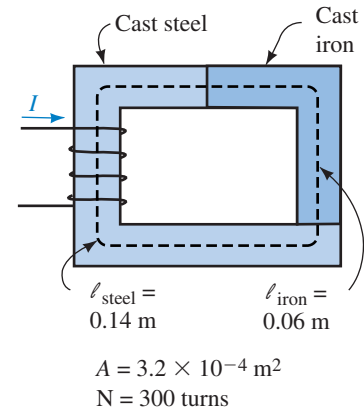

FIGURE 12-48
15. Find the current I in Figure 12-48 if $\Phi = 0.16$ mWb.
17. A gap of 0.5 mm is cut in the cast steel portion of the core in Figure 12-48. Find the current for $\Phi = 0.128$ mWb. Neglect fringing.
18. Two gaps, each 1 mm, are cut in the circuit of Figure 12-48, one in the cast steel portion and the other in the cast iron portion. Determine current for $\Phi = 0.128$ mWb. Neglect fringing.